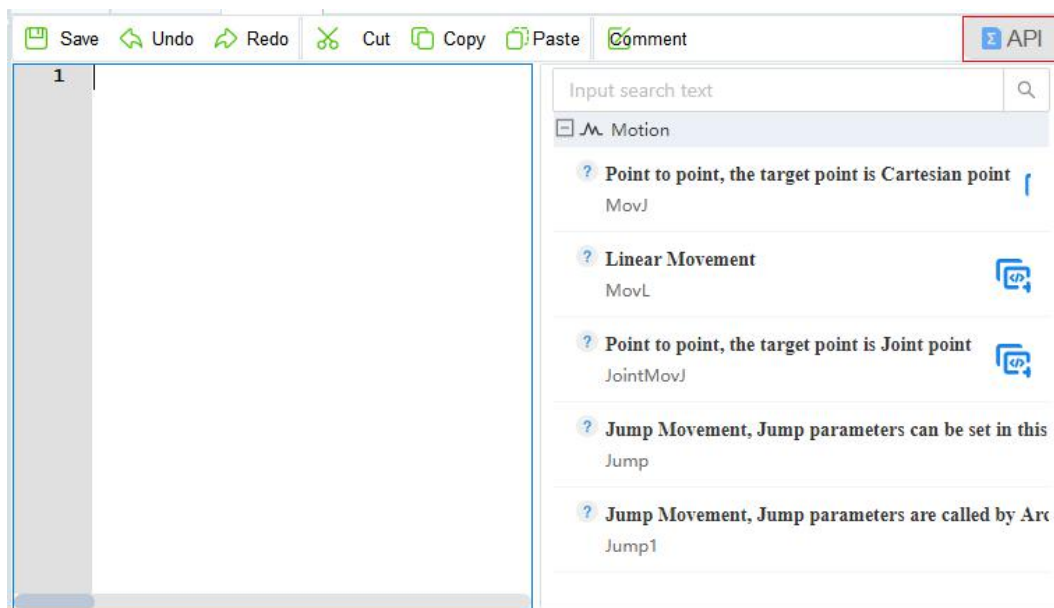

Figure 3.18 Command list
Step 1 Click , and the command list will display on the right side of the page, as shown in Figure 3.18.